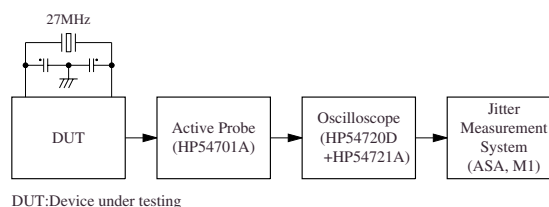

Figure 2. Measurement circuit 2
3. The numeric values are measured values obtained using the circuit in Figure 2 and the NPC standard evaluation board.